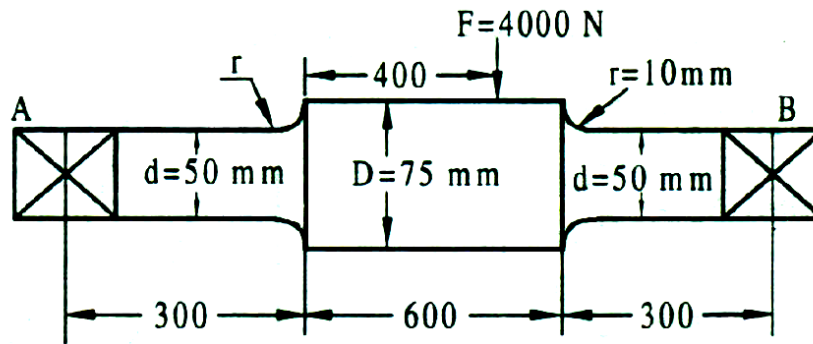

Fig.Q.1A
- 1A.** A load  $F$  on a simply supported shaft as shown in figure **Fig.Q.1A** is 4000 N. **(05)**